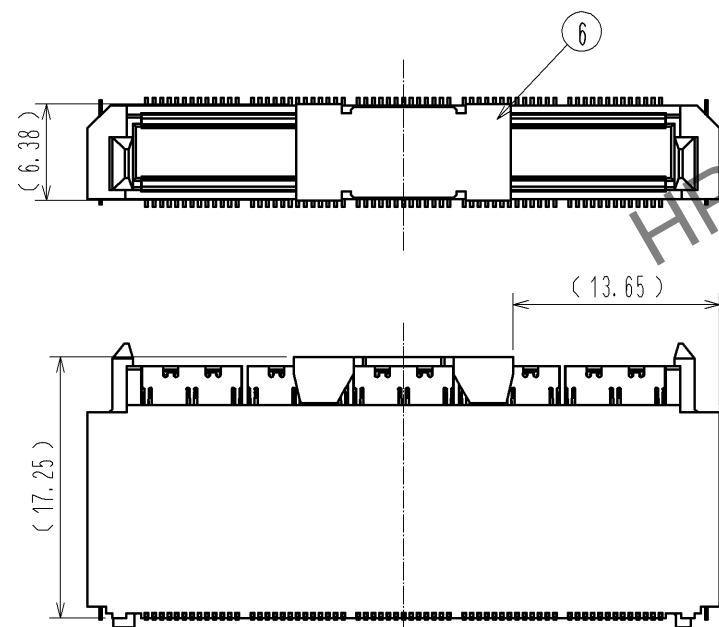

Fig.4 (2:1)
- Dimensions for this product with Pick & Place cap are shown in Fig.4.